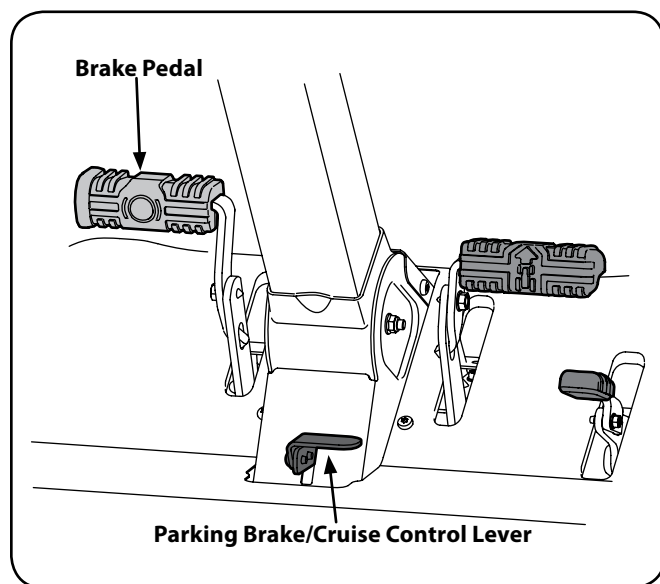

Figure 12
2. Engage the parking brake by pressing forward on the brake pedal (○), then press down on the parking break/cruise control lever and then release the brake pedal (○). Refer to Figure 12.
3. Make certain the PTO switch is in the disengaged (down) position. Refer to Figure 12.